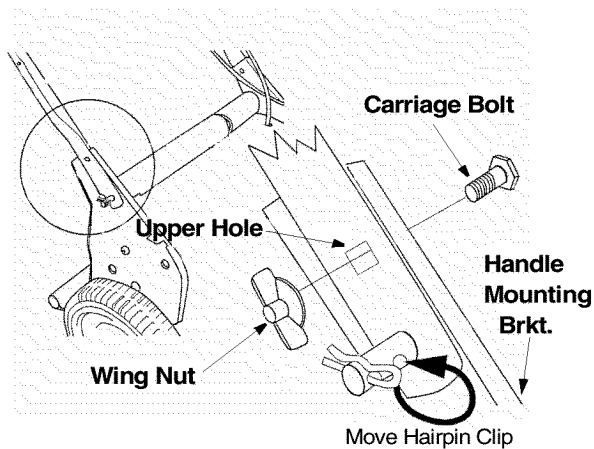

Figure 5
- Using a pair of pliers, insert the hairpin clip into the inner hole on the weld pin. Repeat on other side. See Figure 5 .